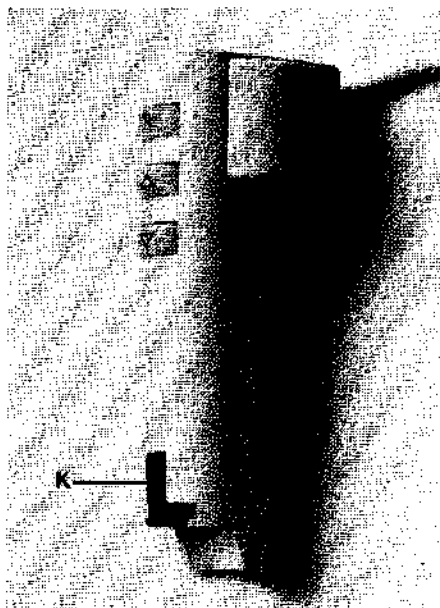

Fig. 6: Dispensing grip
4.1 The control keys (Fig. 6)
The motor moves the piston mounting K to its lowest position (see Fig. 6). This is the Reset Position = Zero Position. If a dispensing component is attached, the piston is pushed completely into the dispensing component by this means.